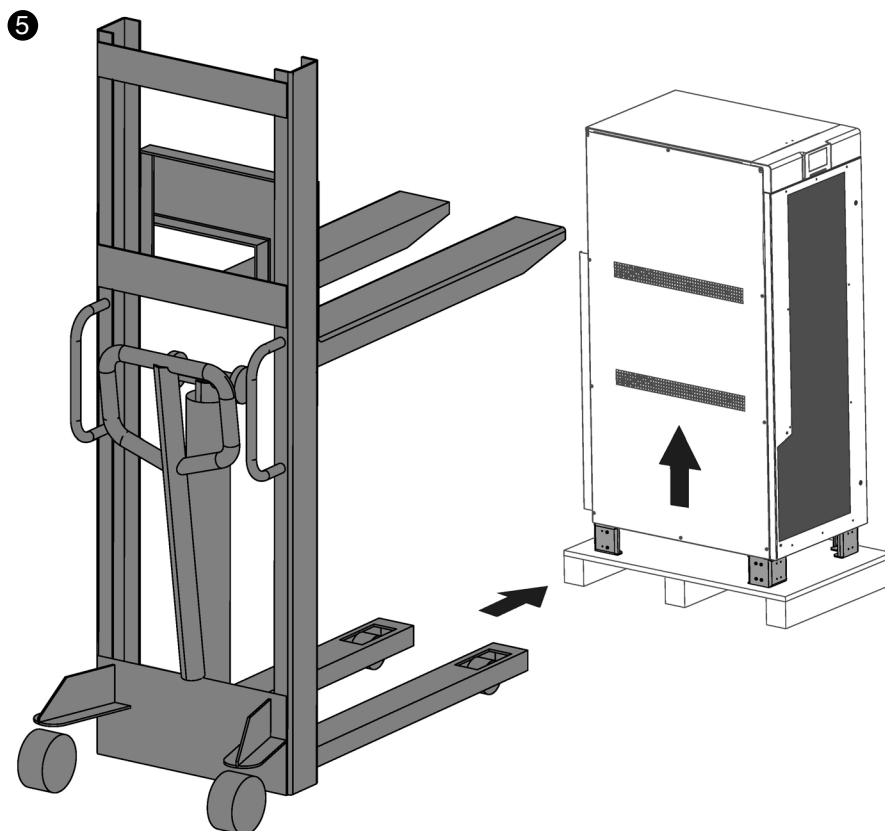

Fig. 32. Lifting of the equipment by means of a pallet truck.
- ❺ Proceed to lower the equipment from the pallet using a forklift or pallet truck (Fig. 32).